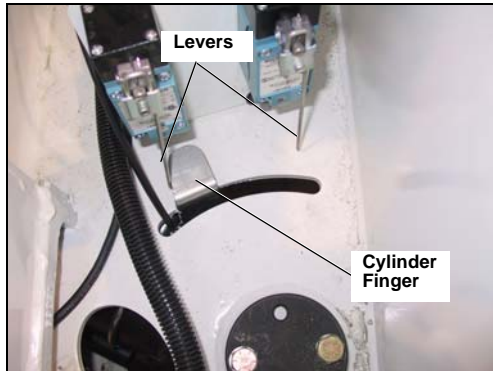

Figure 40. Packer cylinder finger
9. Adjust the limit-switch-finger (Figure 40. "Packer cylinder finger") so the cylinder lever can trigger the switch when the packer cylinder reaches this position.
14. Adjust the limit-switch-finger (Figure 40. “Packer cylinder finger”) so the cylinder lever can trigger the switch when the packer cylinder reaches this position.
To adjust the cylinder finger (see Figure 40. “Packer cylinder finger”), unscrew the bolts (2) of the cylinder brackets, which can be reached by raising the floating panel and opening the right-hand side clean-out trap door, and then move the finger until it reaches the proper position.